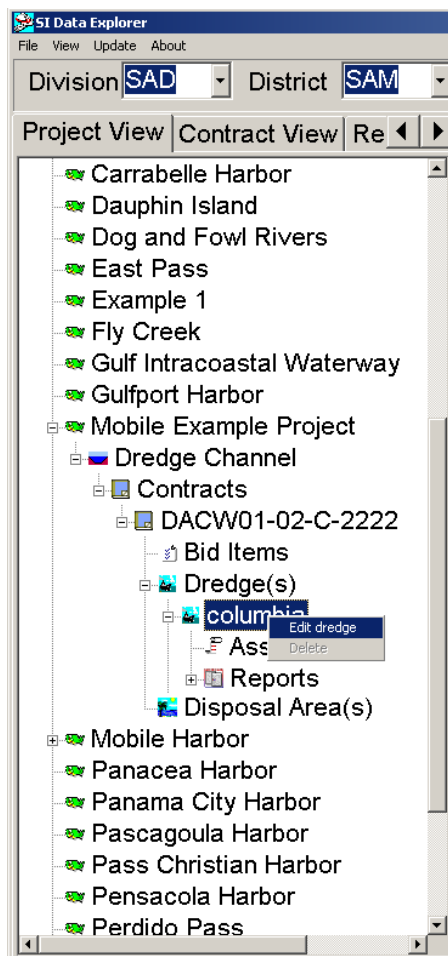

Figure 1.22 Editing the dredge
1. Right Click on the dredge as it appears in Figure 1.22.